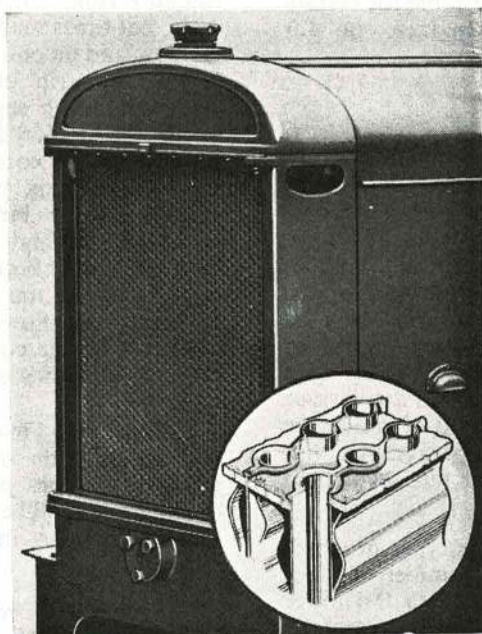

Fig. 15. MULTIPLE-TUBE RADIATOR
25. Multiple-Tube Radiator. The multiple-tube radiator (Fig. 15) consists of a number of tube strips separated by corrugated cooling gills. Each tube strip consists of a number of tubes manufactured as one piece, the ends of the tube strips passing through holes and slots in two plates which form the top and bottom of the core. The ends of the tubes are swaged over to form flanges on the plates, and the flanges are soldered to the plates to make a watertight joint. The cooling gills between the tube strips have the high points of the corrugations soldered to the strips to form a rigid structure. The top and bottom tanks are bolted to the tube-plates, and the side supports are bolted to the tanks. Water passes through the